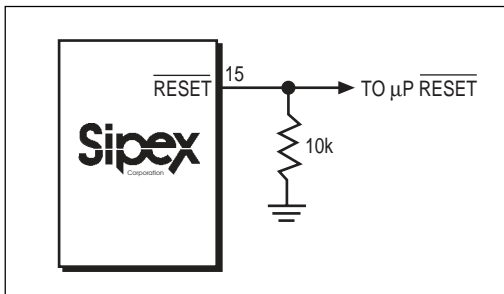

Figure 4. Adding an external pull-down resistor ensures $\overline{\text{RESET}}$ is valid with V_{CC} down to GND .
1.6mA at $\text{VOUT} - 0.5\text{V}$. When no backup battery is used, $\overline{\text{RESET}}$ output is valid down to $\text{VCC} = 1\text{V}$, and an external $10\text{k}\Omega$ pull-down resistor on $\overline{\text{RESET}}$ ensures that $\overline{\text{RESET}}$ will be valid with VCC down to GND as shown on *Figure 4*. As VCC goes below 1V , the gate drive to the $\overline{\text{RESET}}$ output switch reduces accordingly, increasing the $r_{DS}(\text{ON})$ and the saturation voltage. The $10\text{k}\Omega$ pull-down resistor ensures the parallel combination of switch and external resistor is $10\text{k}\Omega$ and the output saturation voltage is below 0.4V , while sinking $40\mu\text{A}$. When using a $10\text{k}\Omega$ external pull-down resistor, the high state for the $\overline{\text{RESET}}$ output with $\text{VCC} = 4.75\text{V}$ is 4.5V typical. For battery voltages greater than or equal to 2V , $\overline{\text{RESET}}$ remains valid for VCC between 0V and 5.5V . $\overline{\text{RESET}}$ will be asserted during the following conditions: